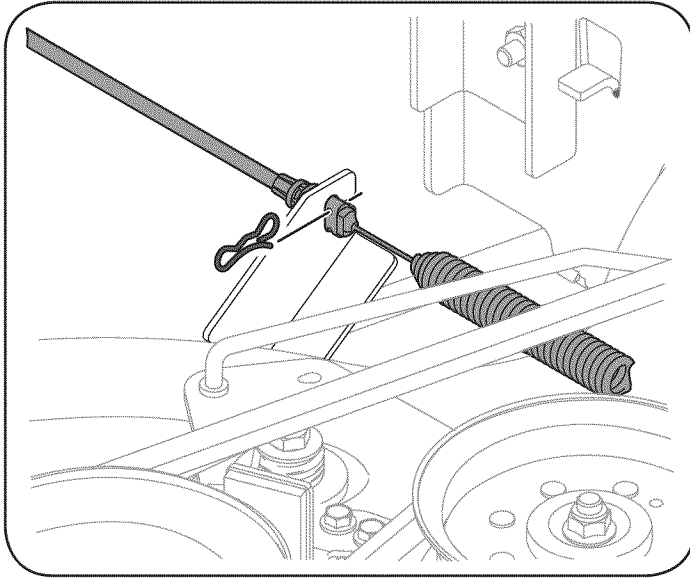

Figure 27
9. Carefully remove the PTO cable from the rear of the cutting deck by removing the bow-tie cotter pin which secures it. Remove the spring from the deck idler bracket. See Figure 27.